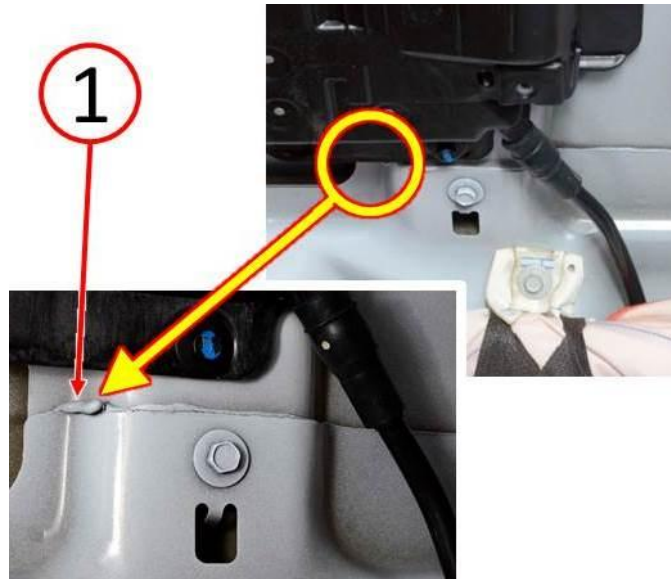

Fig. 2 Visually Inspect For Adhesive
3. Visually inspect for adhesive filling the space between the sheet metal structural components at C-pillar nearest rear corner of sunroof module where the noise was heard. Can adhesive be seen filling the space identified in (Fig. 2)?
- a. Yes>>> Repeat the diagnostic test of pushing upward on the dual pane sunroof rear panel at the rear corner with increasing pressure and then releasing while listening for creak/groan noise as performed in Step #1. Ensure that the noise is coming from the area identified in (Fig. 2) before proceeding to Step #4. If noise is not coming from this structural joint, this bulletin does not apply and further diagnosis is required.